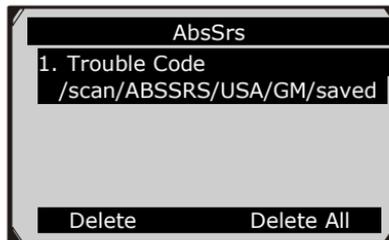

Figure 4.2
- 3) Use the **UP/DOWN** scroll button to select the desired DTC entries from **Scan** menu or **AbsSrs** menu (Figure 4.2), and press the **OK** button.
By selecting **Delete** on the **AbsSrs** screen (Figure 4.2), you are allowed to erase the selected data on the scan tool. Review the recordings thoroughly before erasing. You could also erase all recordings by select **Delete All**.